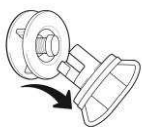

Figure 1
- Remove the valve cap (figure 1)